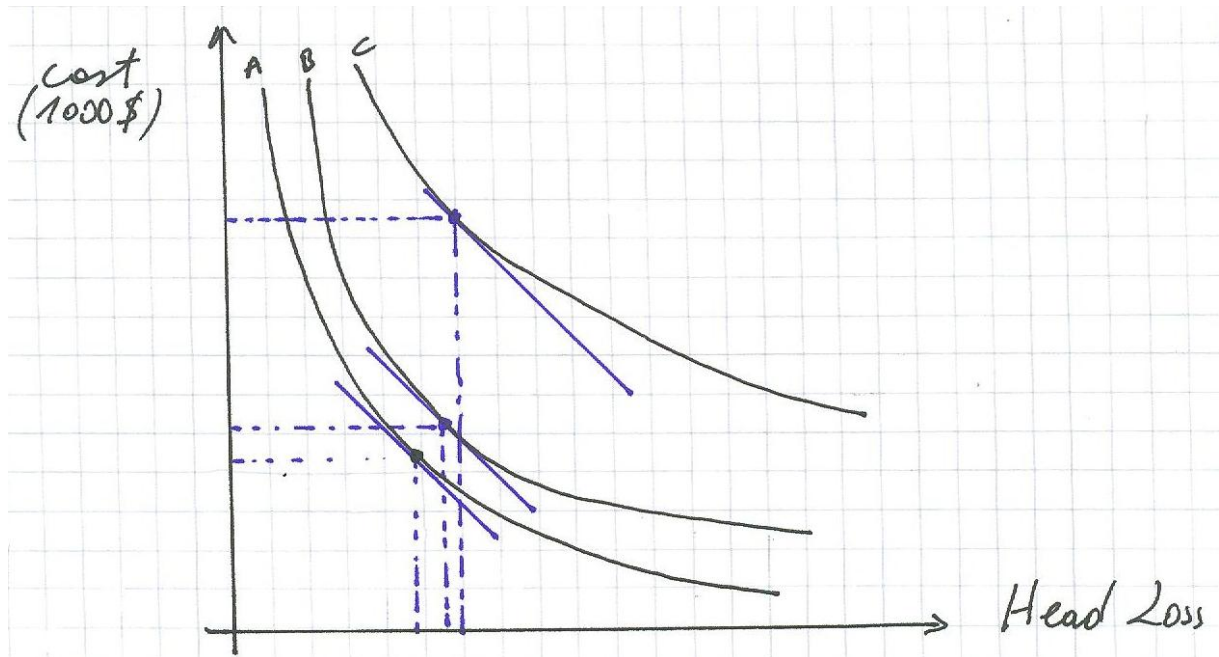

Figure 3. Lagrange's method to select most appropriate diameter series when gravity type of flow is used.
- 1) Select a tangent to A shown in the Figure 3.